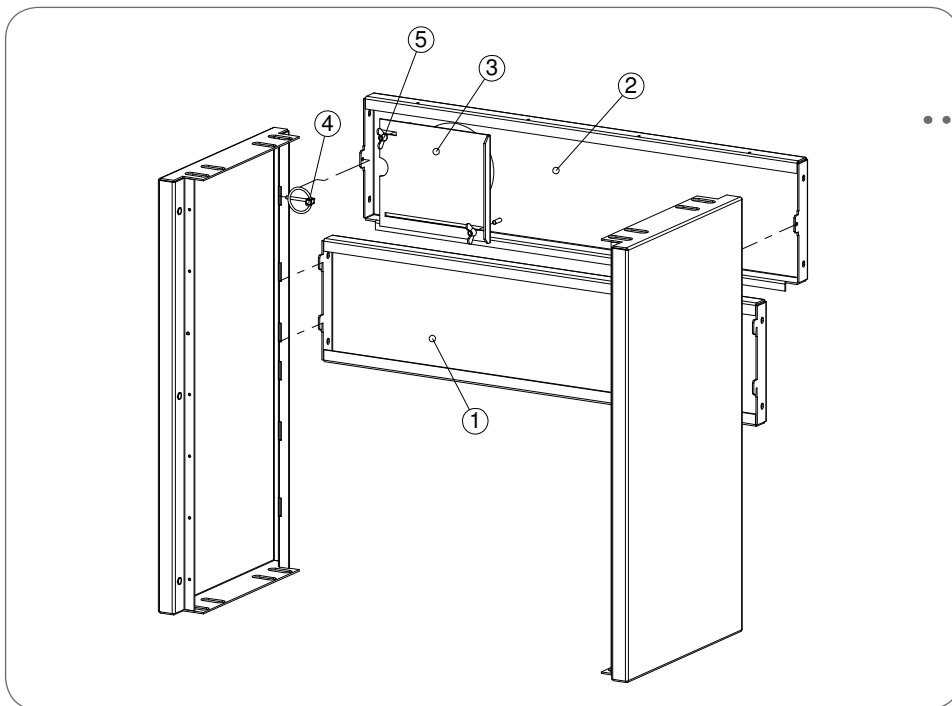

Fig. 2.7. Assembly of the base. In the second stage, fasten the front and cover panels into the base.
considered necessary, 4.8x9.5mm self-tapping screws. The round thread-through holes in the upper front panel of the base can be covered with a cover panel (3) that is fastened with winged nuts as shown in Figure 2.7.